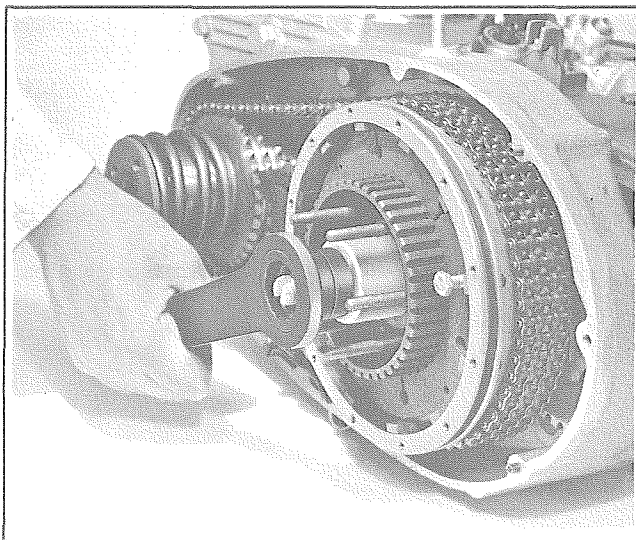

Figure 4B-11. Installing Clutch Hub
ASSEMBLING CLUTCH (Fig. 4B-8)
Press 1966 and earlier extension (29) in clutch gear using aluminum paint as a sealer and install hub nut "O" ring (28). Install oil seal (27). Do not forget to insert clutch release rod - left (9, Fig. 4B-6). Apply a light coat of grease to needle roller bearings, and compensating sprocket shaft extension and install spacer (20 or 20A) and "O" ring (18) on clutch gear. Assemble clutch sprocket, front chain and compensating sprocket in one move. Be sure chain adjuster is positioned loose behind chain. Reassemble compensating sprocket as described under "Assembling Compensating Sprocket."
Install clutch hub on clutch gear splines using Clutch Hub Installing Tool, Part No. 97170-55A, as shown in Fig. 4B-11. Install Lock Plate, Part No. 97175-55, and Sprocket Locking Link Tool, Part No. 97200-55, as shown in Fig. 4B-9.
Install a new lock washer (15) over clutch gear splines and install hub nut (14 or 14A, Fig. 4B-8) using Wrench, Part No. 94647-52, as shown in Fig. 4B-9. Follow up hand tightening by striking wrench handle with a soft mallet to securely seat nut to at least 150 ft-lbs torque. Bend ear of washer (15) against hex-head of hub nut. Clutch hub must run free on shaft after tightening.